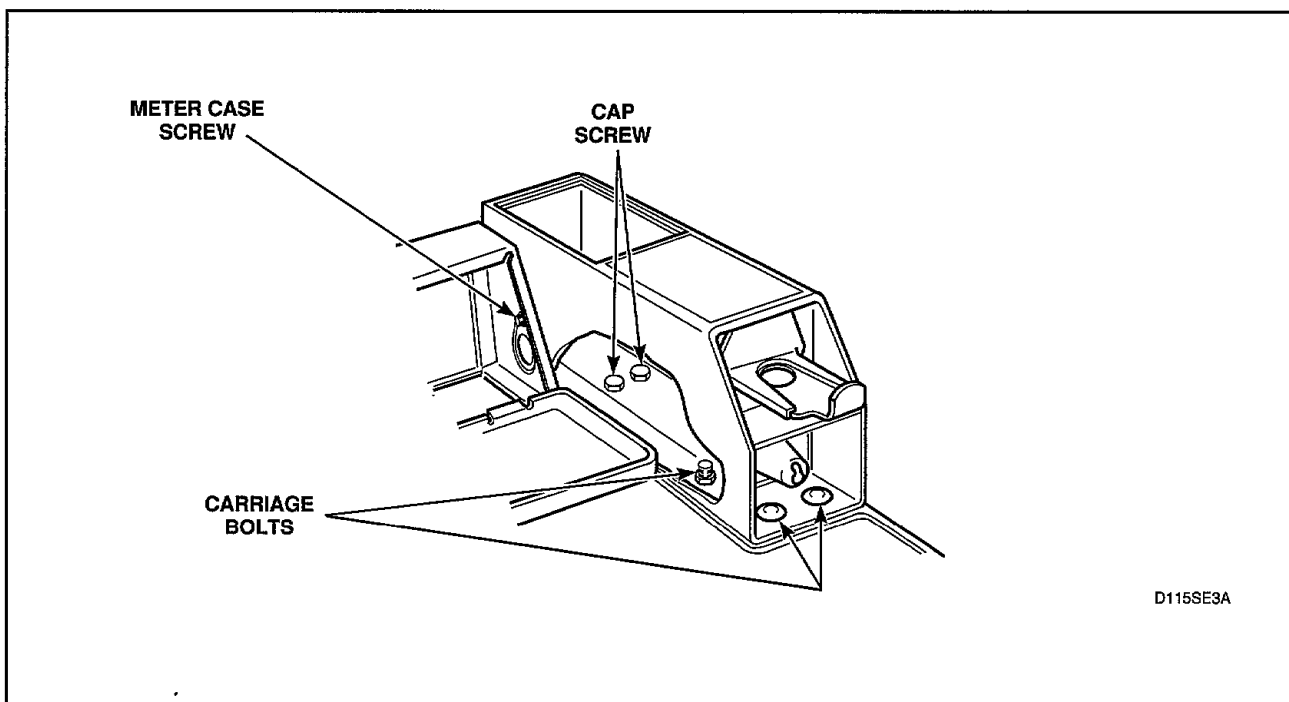

Figure 8
- Remove two cap screws holding meter case to cabinet top, *Figure 8*.
- Remove nut, lockwasher and screw holding meter case to right end of control hood, *Figure 8*.
p. Lay the cabinet top assembly flat, remove carriage bolts, washers, bracket, gasket and nuts holding meter case to cabinet top and remove meter case, *Figure 8*.